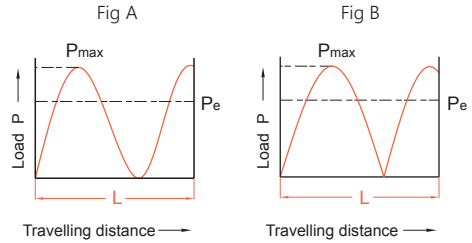

Fig 1.9.2
(2) When load changes according to sine curve (see Fig 1.9.2)